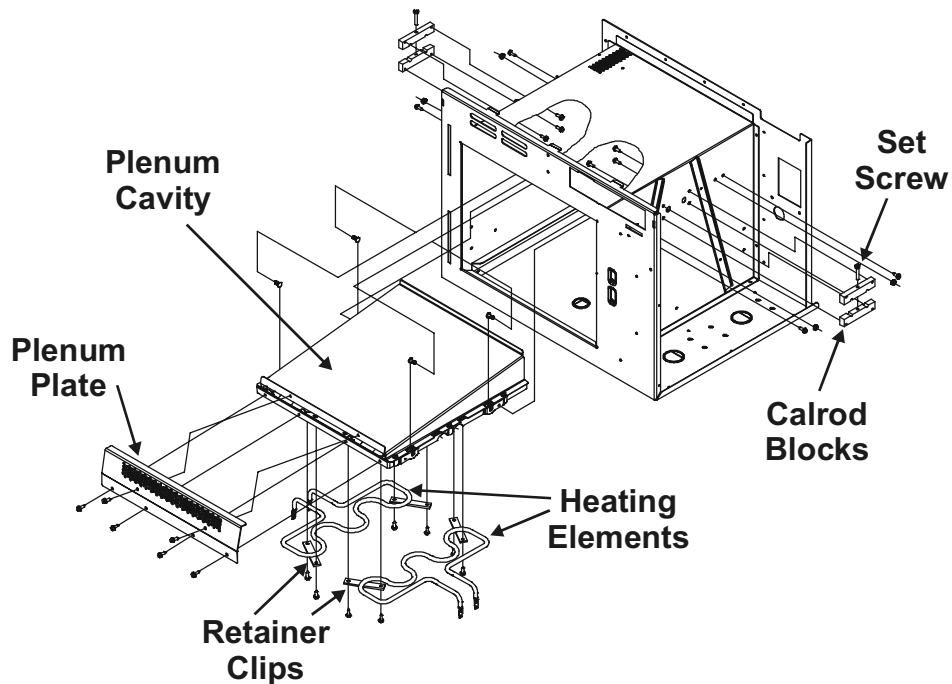

Figure 2
1. See “Component Location” Figure 2, for location.